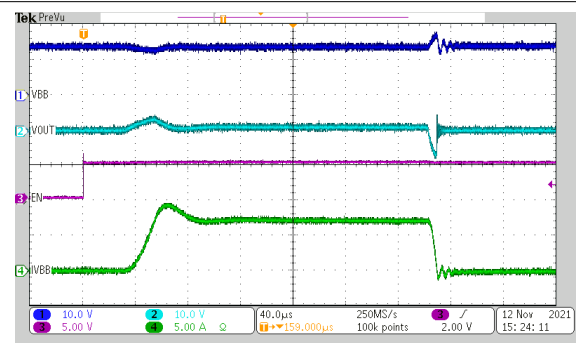

**Figure 9-6. Enable into Short Circuit**
**Figure 9-6** shows a test example of a enable into short-circuit inrush current limit. Test conditions:  $V_{BB} = 13.5$  V, input is low to high, load is 5  $\mu$ H + 100 m $\Omega$ , ILIM pin is shorted to GND. CH4 is the output current, CH3 is the input step. CH2 is the output voltage, VOUT. CH1 is the supply voltage, VBB